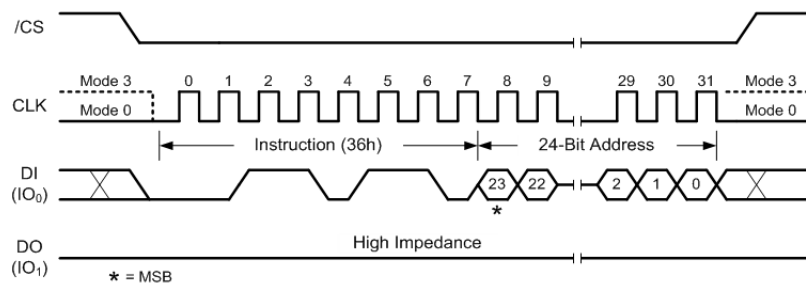

Figure 19: Individual Block/Sector Lock Instruction (SPI Mode)
To lock a specific block or sector as illustrated in Figure 19 and Figure 20, an Individual Block/Sector Lock command must be issued by driving /CS low, shifting the instruction code “36h” into the Data Input (DI) pin on the rising edge of CLK, followed by a 24/32-bit address and then driving /CS high.